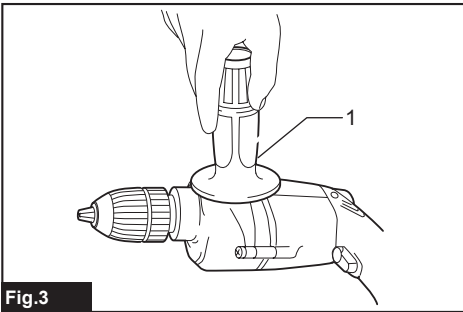

Fig.3
- Fig.3: 1. Side grip (auxiliary handle)